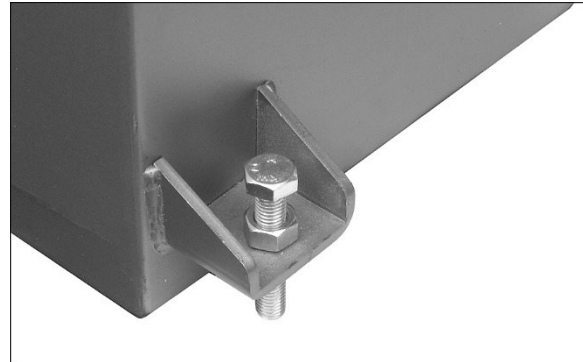

Figure 5-1: leveling screws
- 5. Install four leveling screws with hex nuts (provided) into threaded holes on base flanges (Figure 5-1). Place a level on table surface and check side-to-side and front-to-back. Adjust leveling screws until machine is level in both directions, then tighten nuts.